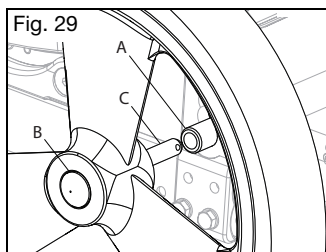

Fig. 29
- Push in the quick release button (Fig. 29:B) on the axle (Fig. 29:C) to allow the locking balls to retract. Make note of the difference between the extended and depressed position of the axle release button and its effect on the locking balls on the other end of the axle.
- Push on the quick release button again and slide the axle into the axle sleeve (Fig. 29:A).